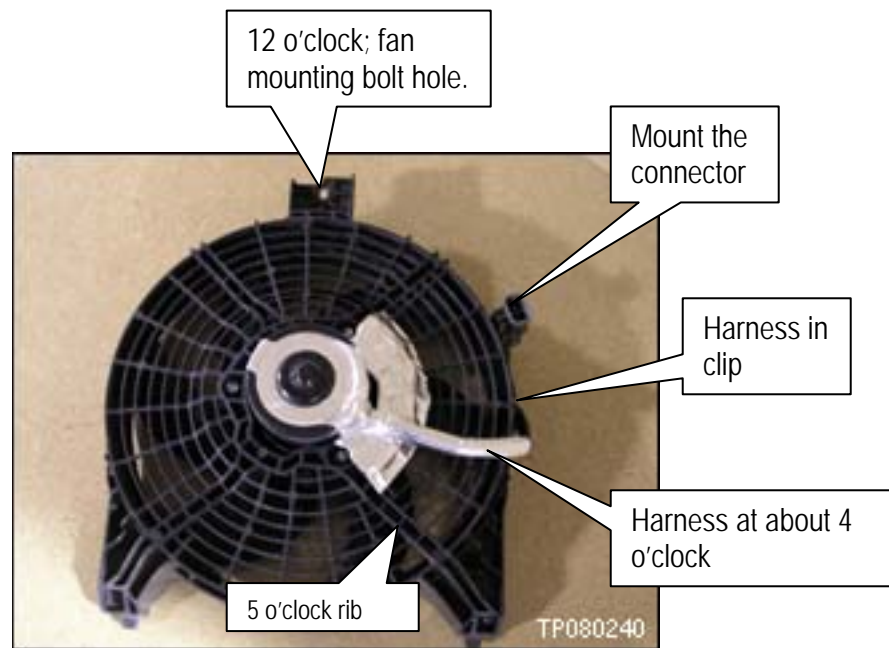

Figure D-16
13. Install the motor in the shroud with the harness in the correct location (about 4 o'clock) as shown in Figure D-16.